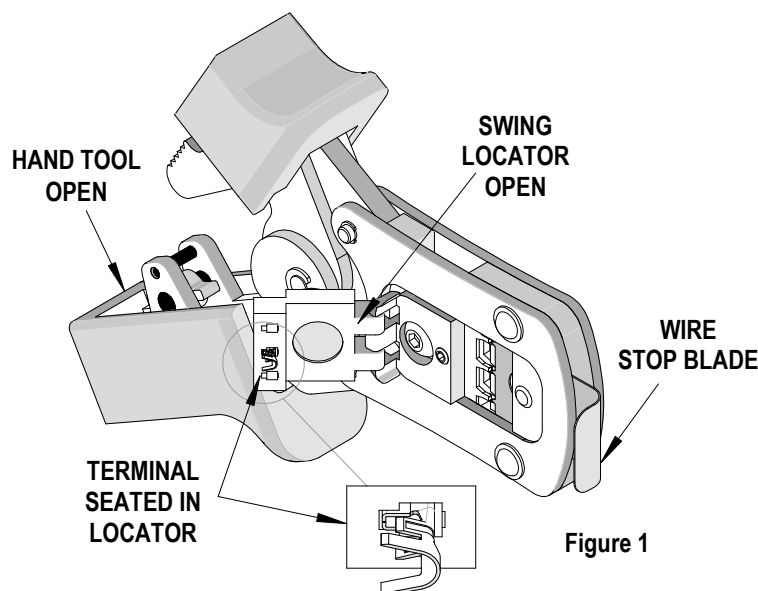

Figure 1
1. With the hand tool in the open position, pivot the terminal locator open by pulling up on the locator knob and lift the wire stop blade up. See Figure 1.